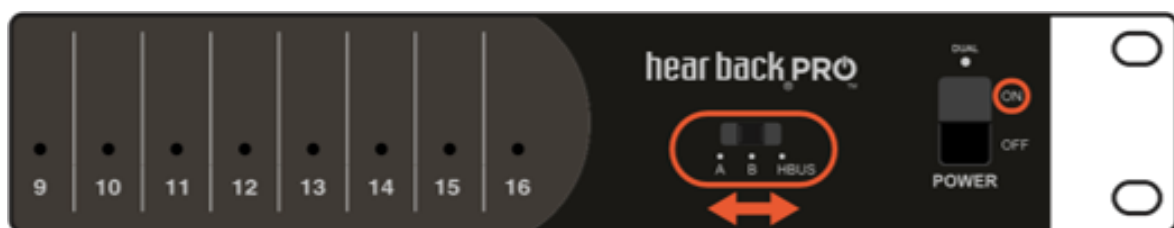

Figure 1
2. Immediately after all the LEDs turn "on", slide the "Input Selector Switch" through all "A,B, HBUS" options, then return to the original selection (**Figure 1**).